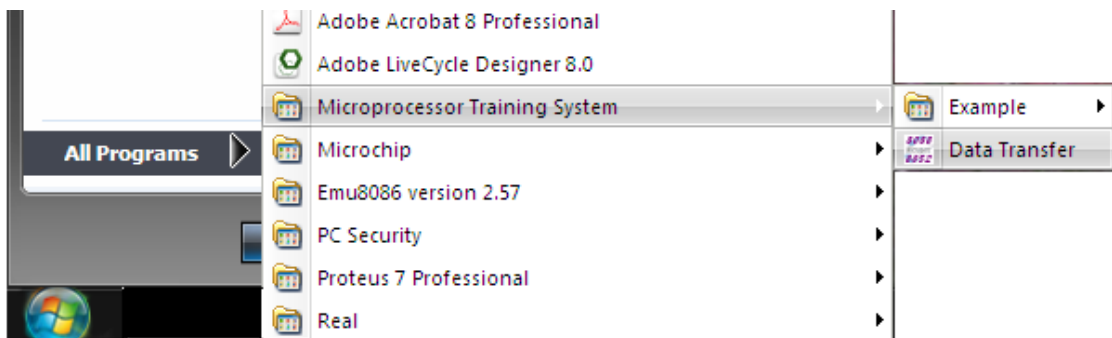

Figure 4
- c) Now open the data transfer program. (See figure 4).